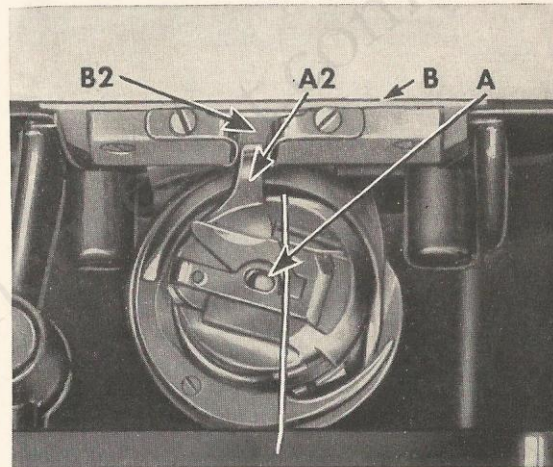

Fig. 13. Bobbin Case Threaded and Replaced
Place the bobbin case on the center stud A, Fig. 13.
**CAUTION**—If throat plate B, Fig. 13 is removed for cleaning the stitch-forming mechanism, etc., make certain when replacing the throat plate, that the position finger A2, Fig. 13 of the
bobbin case base enters the notch B2, Fig. 13 of the position plate attached to the underside of the throat plate.